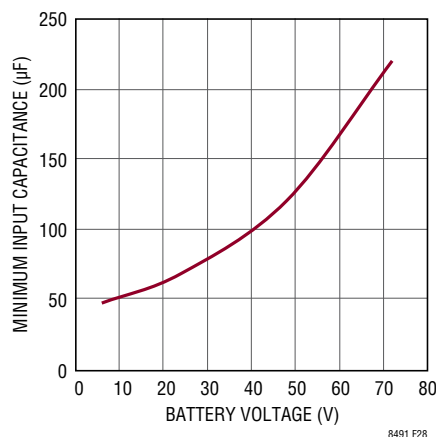

Figure 28. Minimum Input Capacitance Required for Low Power Mode
**Minimum Input Capacitance for Low Power Mode:** A minimum amount of energy must be transferred from the input capacitor to the battery during each charge transfer cycle. Otherwise the battery may be drained instead of being charged. Figure 28 shows the minimum input capacitance required when the charger is operating near the 10V minimum input voltage. As the panel voltage rises, due to increased illumination, more energy is stored in the input capacitor and a corresponding increase of energy is delivered to the battery. Carefully check the solar panel voltage for good stability and minimal ripple when operating with low input capacitance.